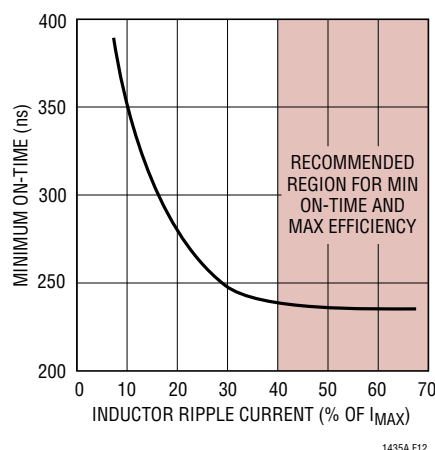

Figure 12. Minimum On-Time vs Inductor Ripple Current
The minimum on-time for the LTC1436A/LTC1437A in a properly configured application is less than 300ns but increases at low ripple current amplitudes (see Figure 12). If an application is expected to operate close to the minimum on-time limit, an inductor value must be chosen that is low enough to provide sufficient ripple amplitude to meet the minimum on-time requirement. To determine the proper value, use the following procedure:
2. Use Figure 12 to obtain the peak-to-peak inductor ripple current as a percentage of I_{MAX} necessary to achieve the calculated $t_{ON(MIN)}$.
3. Ripple amplitude $\Delta I_{L(MIN)} = (\% \text{ from Figure 12}) (I_{MAX})$ where $I_{MAX} = 0.1/R_{SENSE}$.
The ΔI_L was previously calculated to be 1.3A , which is 43% of I_{MAX} . From Figure 12, the LTC1436A/LTC1437A's minimum on-time at 43% ripple is about 235ns . Therefore, the minimum on-time is sufficient and no cycle skipping will occur.